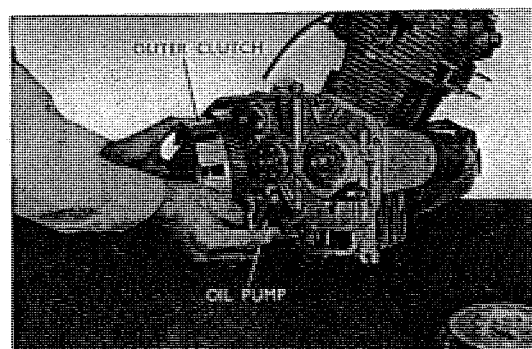

Fig. 3.65 Coupling outer clutch
1. The outer clutch and the oil pump should be coupled by the pump plunger and the unit should be coupled at a right angle to the main transmission shaft and the pump fitting stud bolt. (Refer to Fig. 3.65)